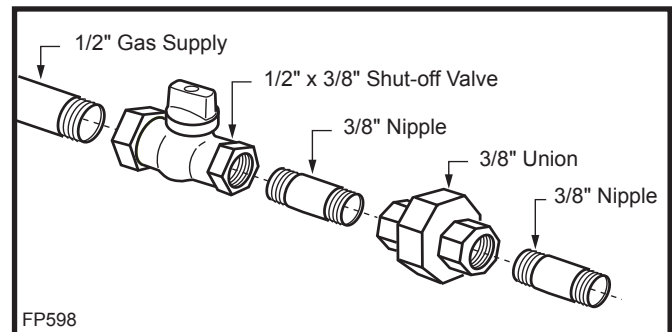

Fig. 10 Typical gas supply installation.
**NOTE:** If flex connector is used, it must be kept inside of the appliance. (Fig. 10)